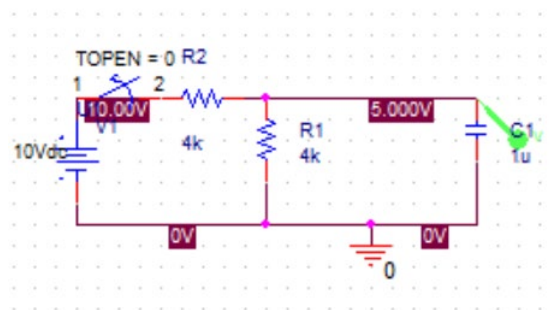

Figure 2: RC Circuit in PSPICE
15. Add a voltage marker by clicking , which is the voltage marker, and put it at the node as shown in Figure 2. Note that a voltage marker indicates the node voltage of the marked position with respect the GND node. We want to observe the voltage across the capacitor with respect to time.
17. Run the simulation by clicking the “Run Pspice” tab. The simulation result will pop up, with the voltage as a function of time plot shown (Figure 2).
18. On the graph, draw a line at $0.3678 \cdot v_C(0)$. Then use the cursor command to locate the time constant. Record this value. To obtain the cursor, click on Trace->Cursor->point. Look in the trace box at the lower right hand corner for the corresponding value in time domain (X).
Use PSPICE to obtain the transient response for the voltage across the capacitor for $R=8.5\text{ k}\Omega$, $R=4\text{ k}\Omega$, and $R=1\text{ k}\Omega$ in the circuit in Figure 2. In the Transient Analysis use a value of 50 ms.